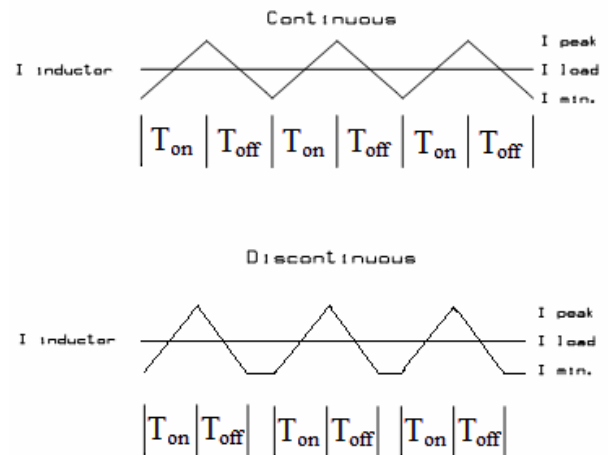
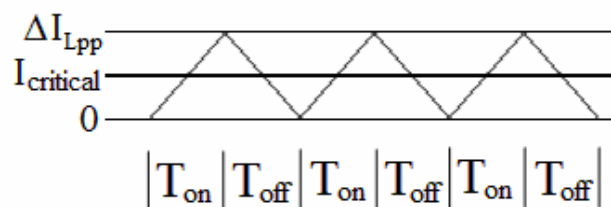

Figure 8. Continuous I_L vs Discontinuous I_L
Figure 9. Inductor Current
The other mode of operation, discontinuous mode, is the mode in which there is a period of time after T_{off} when there is no current flowing in the inductor. This occurs when the Blackfin processor is in a low-power state with a low voltage on the core supply. Usually, this is a mode to be avoided because it changes the loop characteristics. Figure 8 shows the impact on inductor current for the two modes of operation:
Recall that the ΔI_{Lpp} term is the peak-to-peak magnitude of the ripple current in the inductor, which, under steady-state conditions, is the current that flows into the output capacitor. Under steady-state conditions, the duty ratio (D) is adjusted by the feedback loop in such a way that the magnitude of ramp-up and ramp-down currents in the inductor will be equal (Figure 8). However, note that a minimum load current is necessary to keep the regulator in continuous mode. This current is known as the *critical current*, and is represented as $I_{critical}$. Figure 9 depicts how $I_{critical}$ relates to ΔI_{Lpp} :